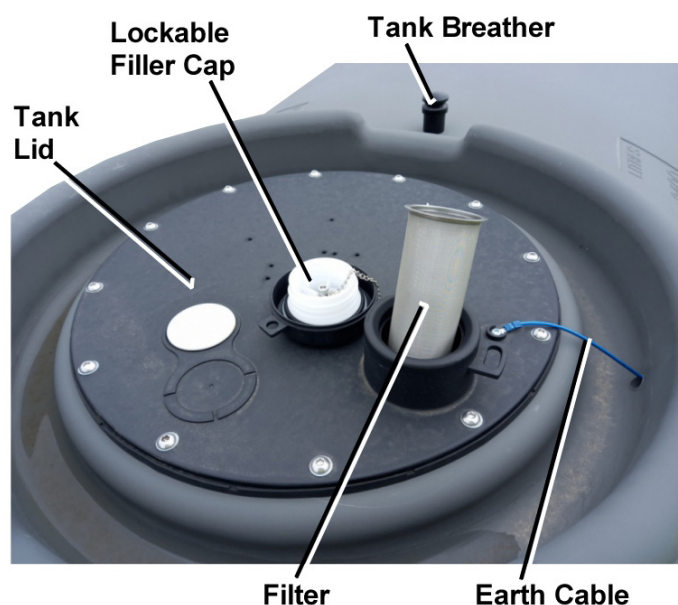

Figure 3 – Tank Filling Operation
- Unscrew the filler cap from the tank's top opening, refer to Figure 3.